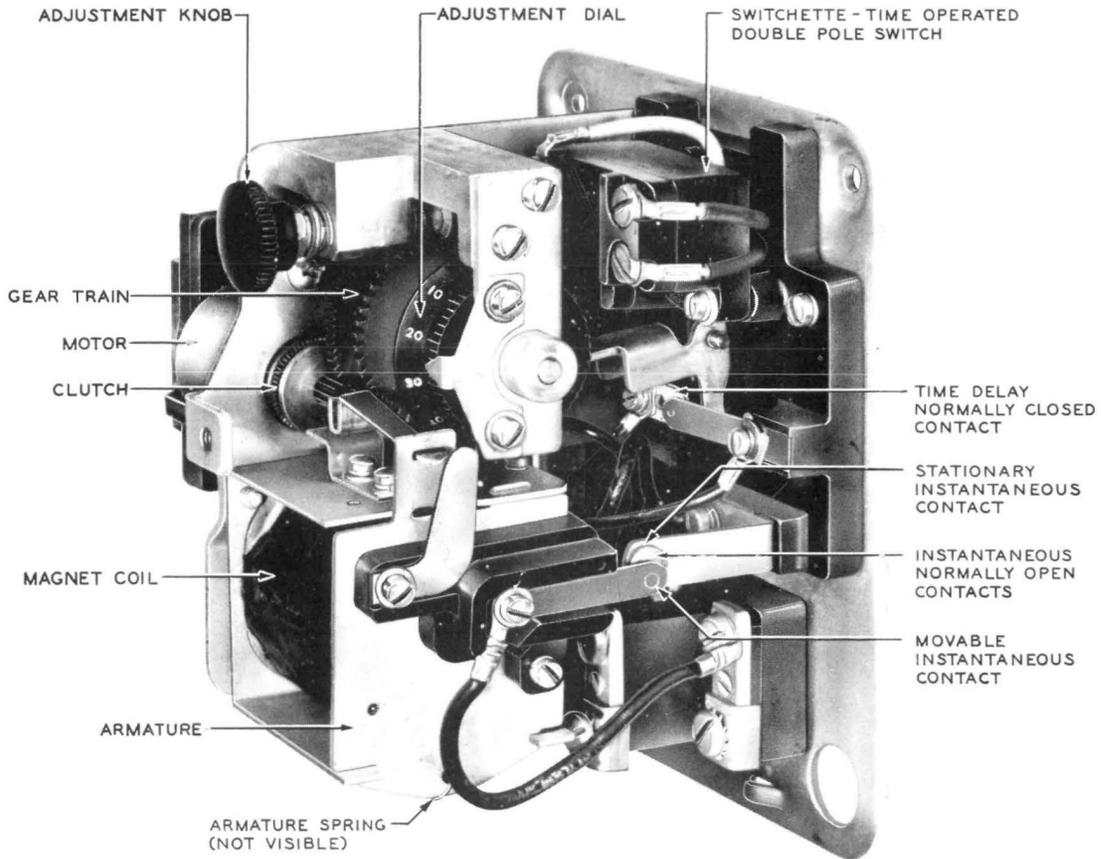

Fig. 12 – CR2820-1740A Time-Delay Relay (cover removed)
3.02 CR2820-1740A Time-Delay Relay (see Fig. 12)